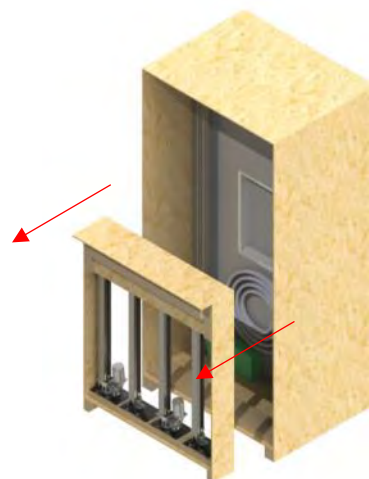

Figure 38
- 11) With the help of another person, remove the jack box from the crate and place it in a safe place. (Figure 38)